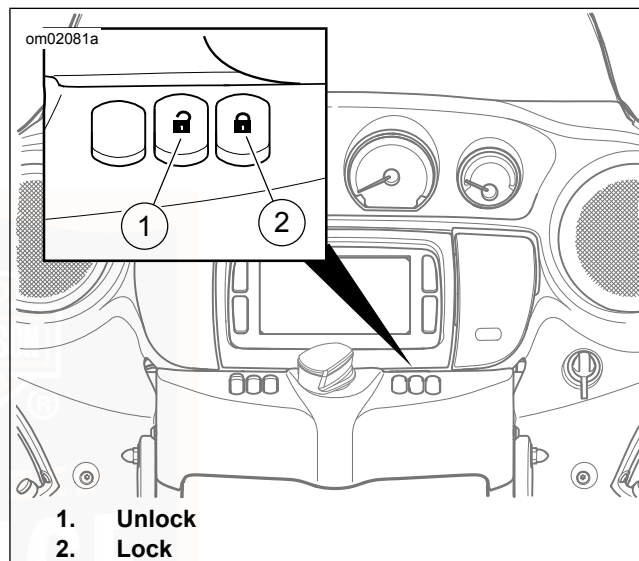

Figure 8. Power Lock Switches
- c. **Power lock switch:** See Figure 8 . With motorcycle turned on, press the lock switch in the fairing cap.
- c. **Power unlock switch:** See Figure 8 . With motorcycle turned on, press the unlock switch in the fairing cap.
See Figure 8. The power lock switch in the inner fairing cap activates the power locks in the fork lock switch, saddlebags and Tour-Pak.